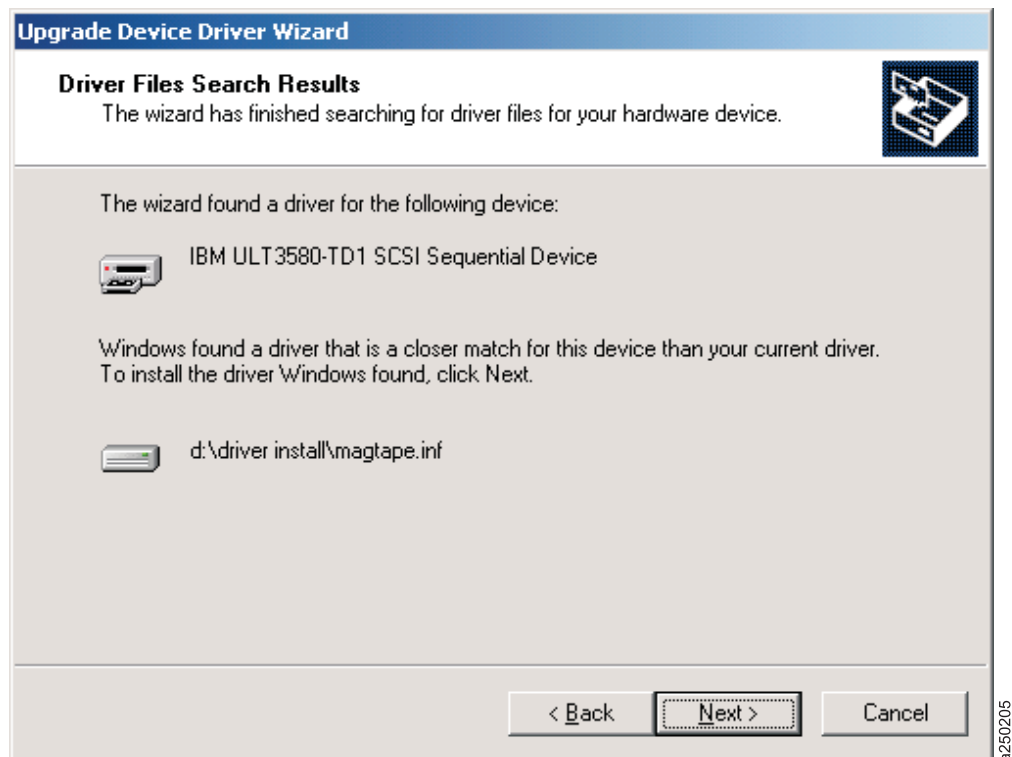

Figure 33. Driver Files Search Results
15. After a brief moment of searching, the operating system should present the **Driver Files Search Results** screen. Figure 33 contains an example of a screen that will be presented when it finds an IBM Ultrium Generation 1 drive. Depending on the device you are installing, this and subsequent screens may have minor differences. Click Next >.